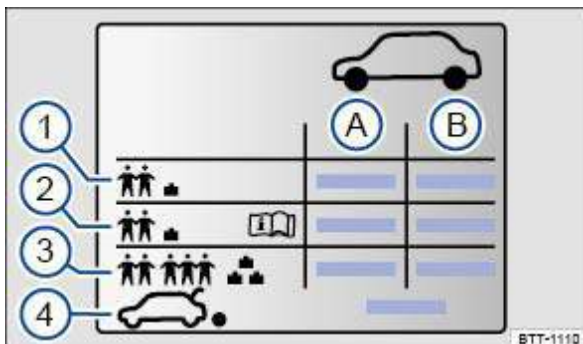

Fig. 174 Symbols on the tyre pressure sticker
Information on the tyre pressure sticker → Fig. 174:
In some vehicles the tyre pressure sticker may show details of a "comfort" tyre pressure → Fig. 174 ② . This should make driving extra comfortable. Fuel consumption may increase when driving with comfort tyre pressure.
- The tyre pressures must be altered to suit the vehicle load → Fig. 174 ③ .
The **spare wheel** or **temporary spare wheel** is filled to the highest tyre pressure → *Fig. 174* ④ permissible for the vehicle.